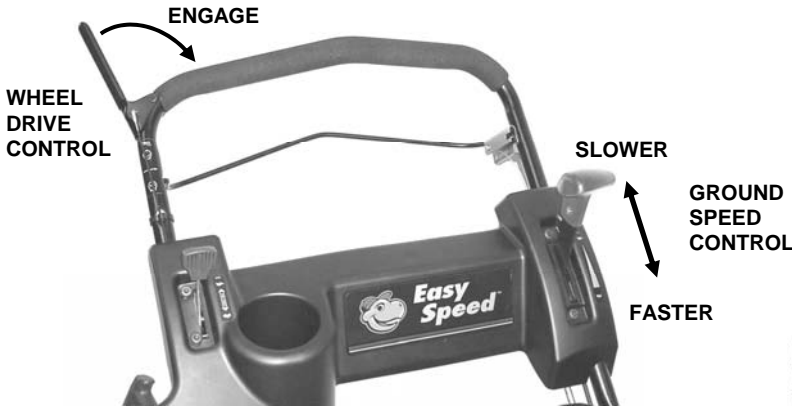

FIGURE 2.4
2. Move ground speed control to the desired speed position. See Figure 2.4.
3. Move wheel drive control against handle to engage wheel drive and propel mower forward. Forward speed can be adjusted while the mower is moving by changing position of the ground speed control. See Figure 2.4.